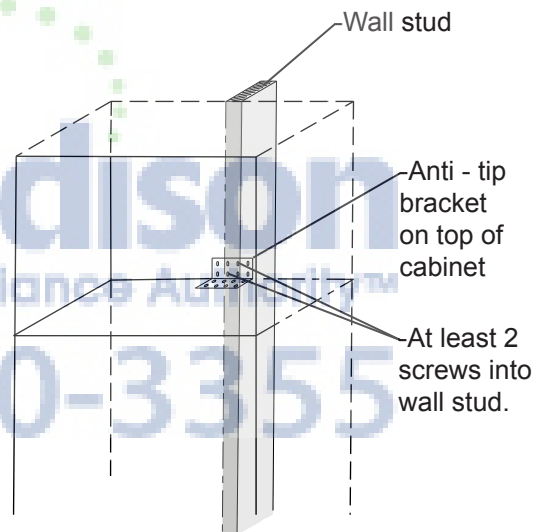

Figure 9
Locate a wall stud behind the unit that is suitable for securing the 5" anti-tip bracket to the wall. The position of the bracket should be to the right of the power module and not behind the power module. Do not disturb the power module gasket on the left side of the unit. Place the anti tip bracket on top of the cabinet flush with the back of the cabinet. Mark and drill at least three holes (1/8" (3.2mm)) into the top of the cabinet and secure the bracket to the top of the cabinet with at least (3) of the #8 x 5/8" screws provided. Secure the bracket to the wall stud with at least (2) #8 x 1½" screws provided. See Figure 9.